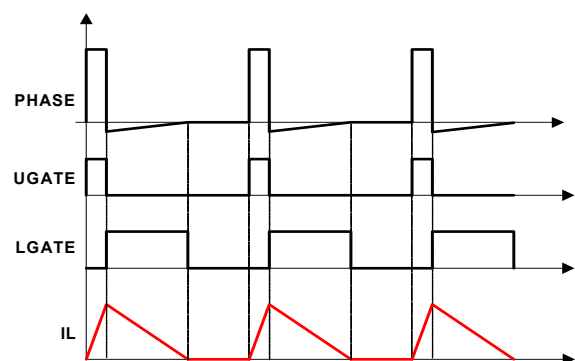

Figure 27. Diode Emulation
The R3 modulator can operate in Diode Emulation (DE) mode to increase light-load efficiency. For example, in Buck DE mode the low-side MOSFET conducts when the current is flowing from source-to-drain and does not allow reverse current, emulating a diode. As shown in Figure 27, the low-side MOSFET carries current when $LGATE$ is on, creating negative voltage on the phase node due to the voltage drop across the ON-resistance. The IC monitors the current by monitoring the phase node voltage. The RAA489800 turns off $LGATE$ when the phase
If the load current is light enough, as Figure 27 shows, the inductor current reaches and stays at zero before the next phase node pulse. At this stage, the regulator is in Discontinuous Conduction Mode (DCM). If the load current is heavy enough, the inductor current never reaches 0A and the regulator is in Continuous Conduction Mode (CCM), although the controller is in DE mode.